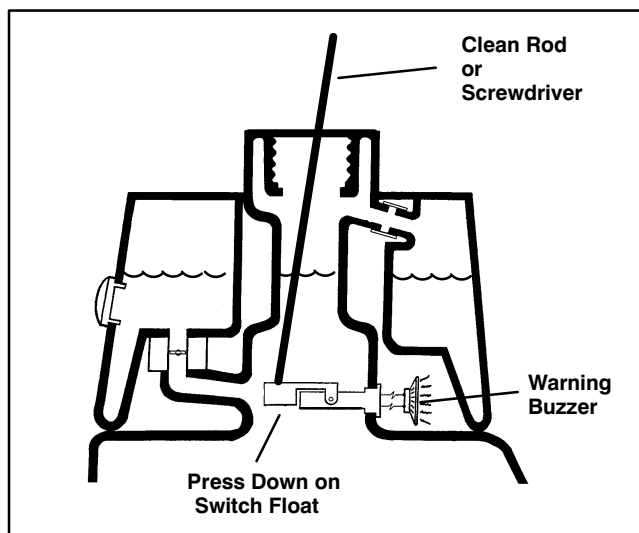

Figure 25
- Insert a clean rod or screw driver into tank neck and gently push down on switch float (Fig. 25). Alarm should sound after one second delay.